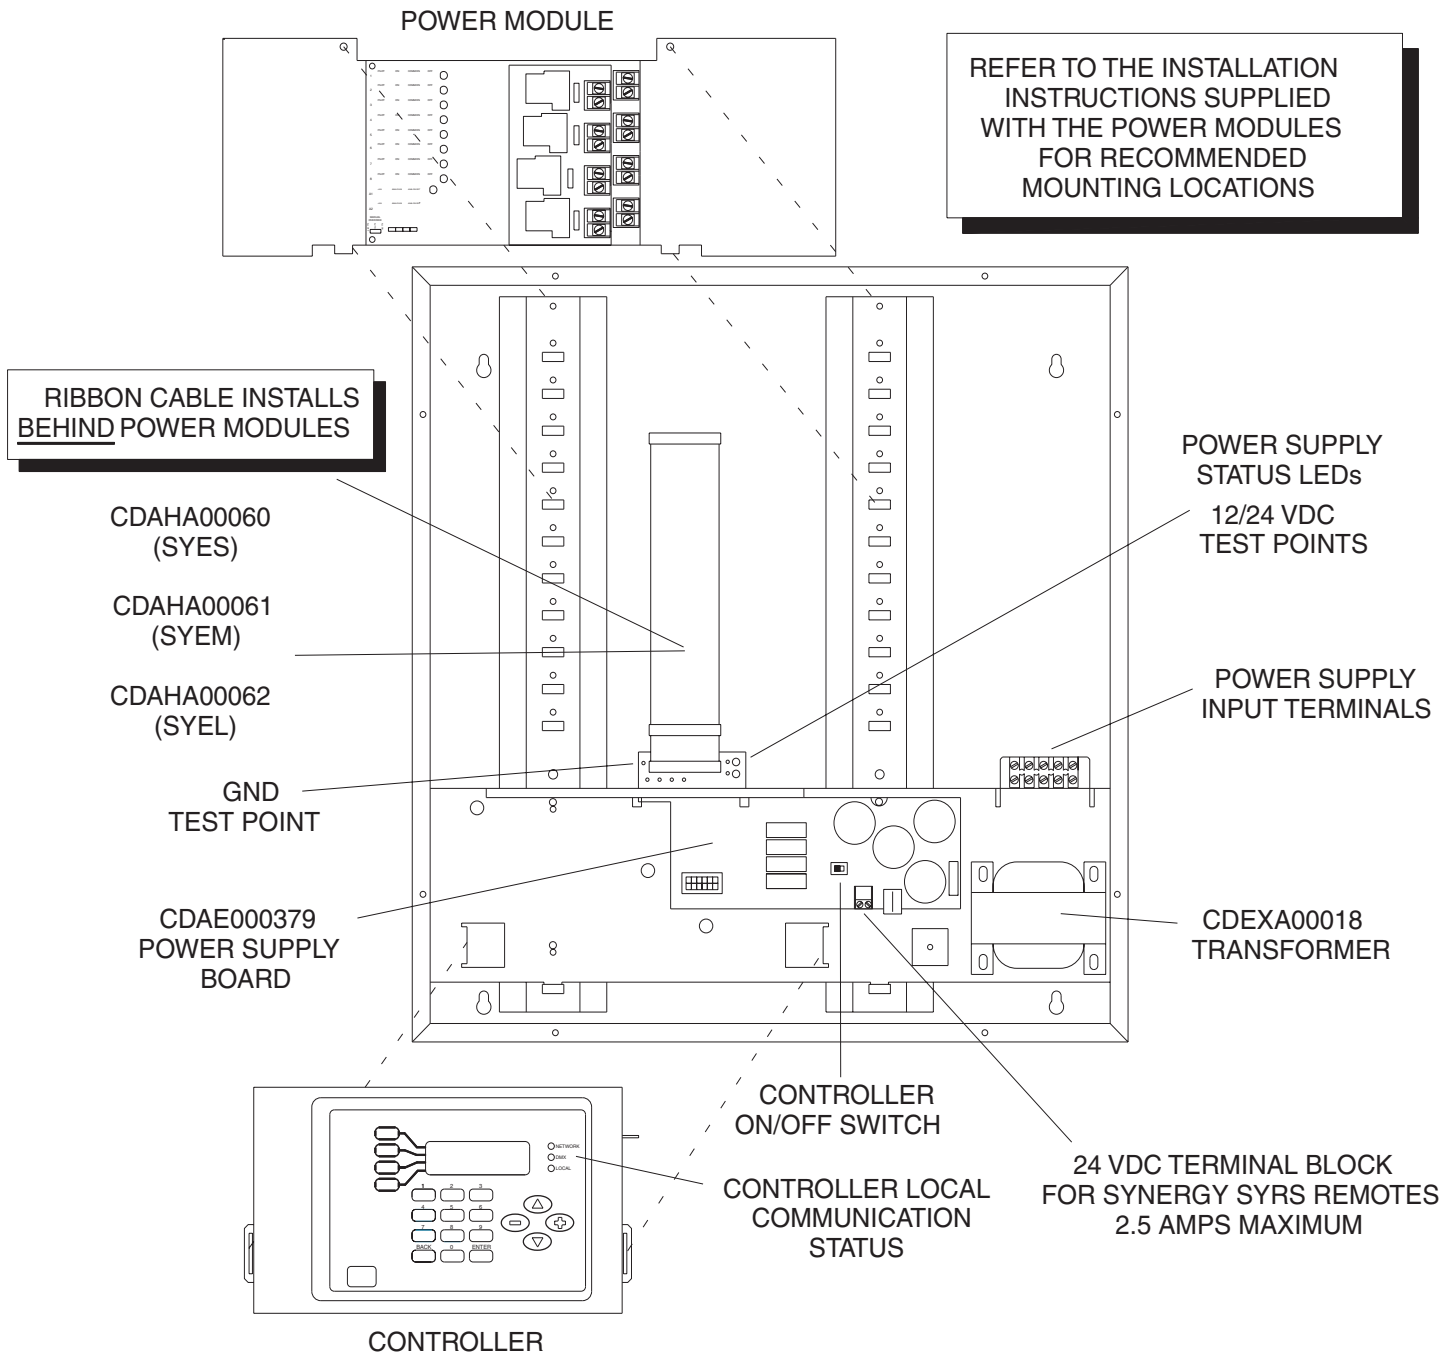

Figure 2 - Part Number and Voltage Test Point Reference Information
1. Controller switch should be in the "OFF" position. See figure 2.